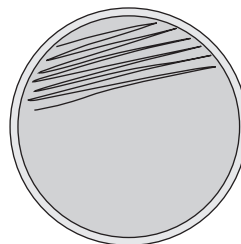

FIG. 2.6.
5. Cover approximately one-fourth to one-third of the plate with between 10 and 20 streak marks (Fig. 2.6). Do not overlap previous streaks.